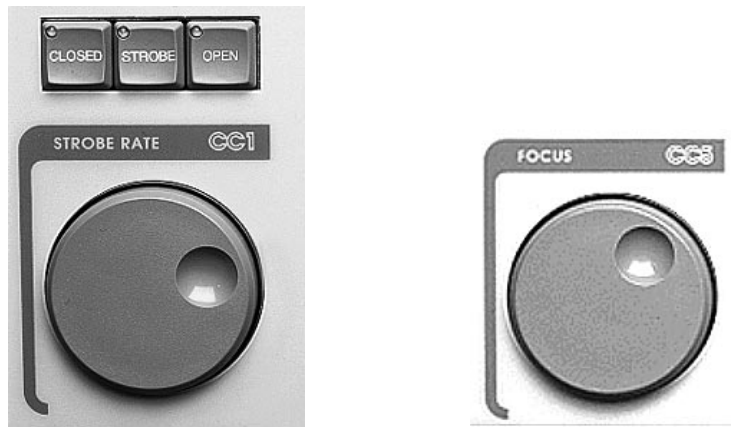

Figure A.11 STROBE RATE and FOCUS Groups
- <CLOSED> in the STROBE RATE group (Figure A.11) displays the output of the <STROBE RATE> encoder.
- <STROBE> displays output of the <FOCUS> encoder (Figure A.11)